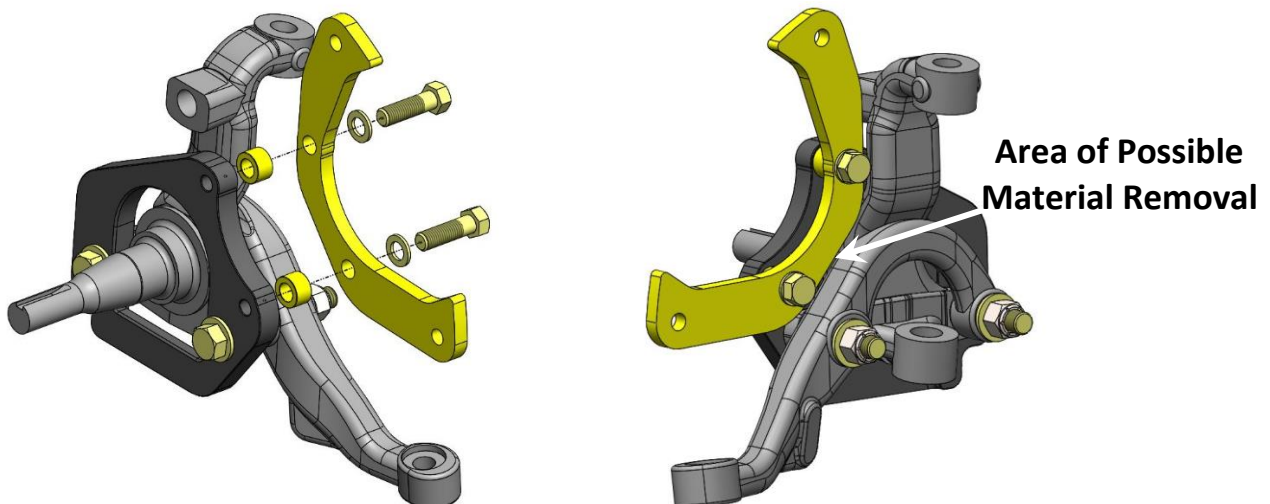

Figure 3 – Secondary Mounting Bracket Installed
5. Install the Secondary Caliper Mounting bracket on the Primary Caliper Mounting bracket. Using the provided 7/16"-14 x 1-1/2" Grade 8 Hex Head Bolts and 7/16" SAE Flatwashers along with two spacers, install the bracket and torque to 55 ft/lbs. **IMPORTANT:** It may be necessary to remove material from the steer arm due to inconsistency in the steer arm castings. If necessary, remove only enough material to leave a small gap between the steer arm and the bracket. It may be possible to remove material from one side of the vehicle and not the other. See Figure 3 below for assembled spindle with brackets along with area for removal.